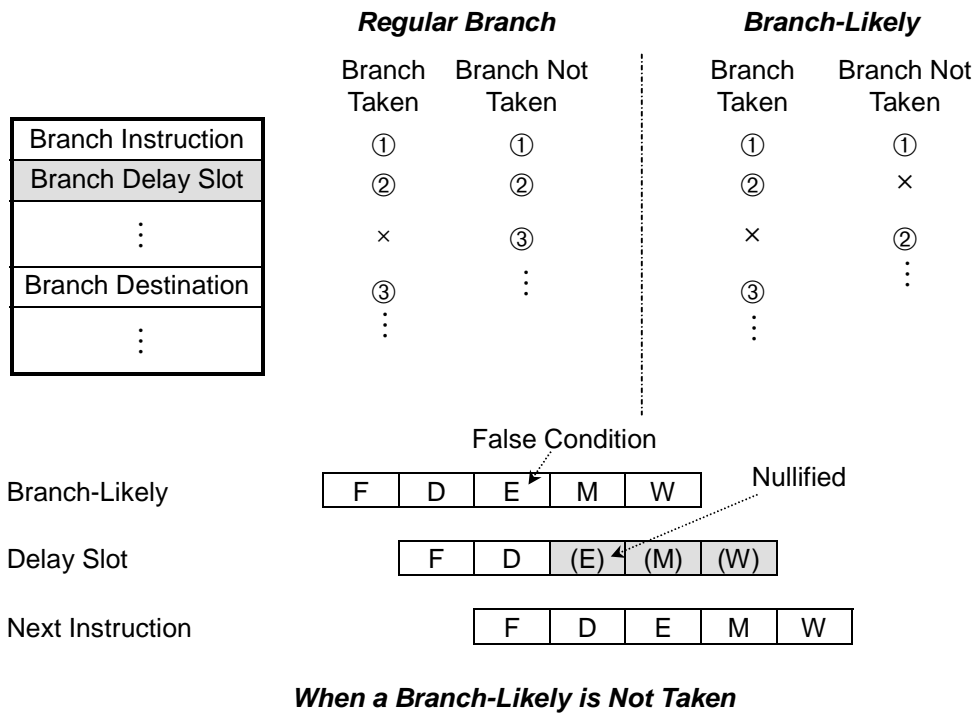

Figure 5-10 Branch-Likely Instruction
On the other hand, a branch-likely instruction causes the TX19 to nullify the instruction in the delay slot at the Execute (E) stage if the branch is not taken. If a branch is taken, the instruction in the delay slot is executed. This approach allows the compiler to fill a branch delay slot with the branch target instruction (see Figure 5-10).